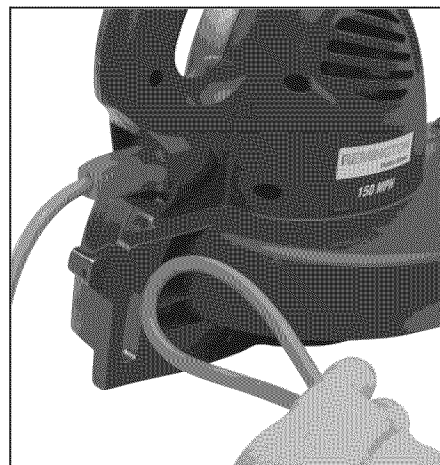

Figure 4 - Inserting extension cord loop through cord slot
2. Create a loop in the extension cord and insert the loop through the cord slot of the blower housing (see Figure 4).